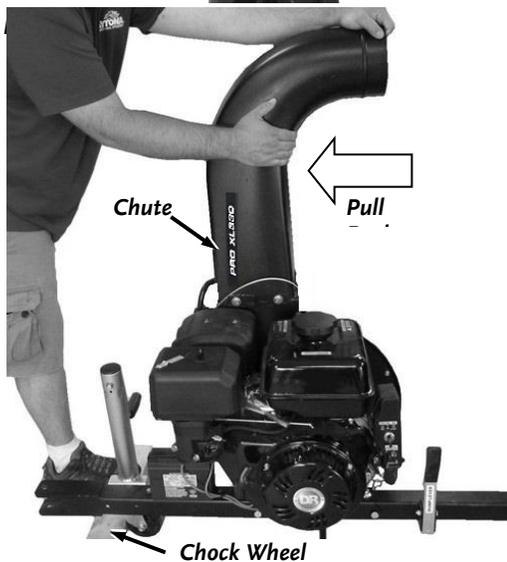

Figure 94
13. Block the Cart Wheels and have a helper pull on the Outlet Duct to take pressure off the Pins when you perform the next step (**Figure 94**).